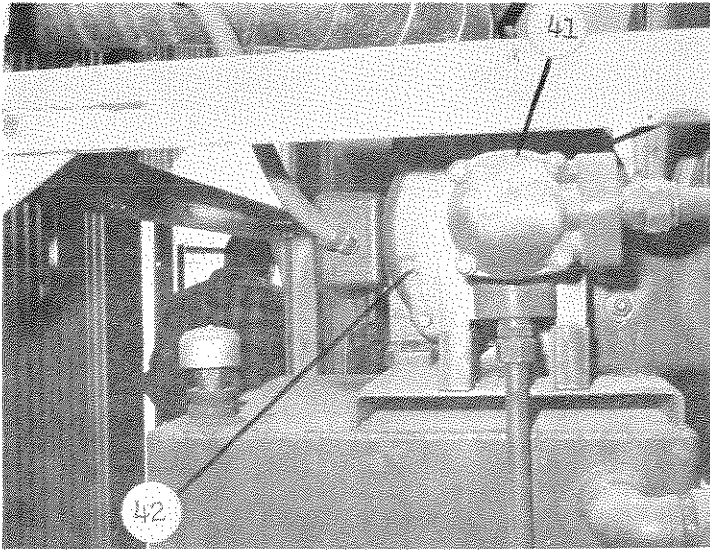

Fig. 1
1. Start motor and check rotation. Pump must turn according to arrow on pump housing. See Ref. 41, Fig. 1.